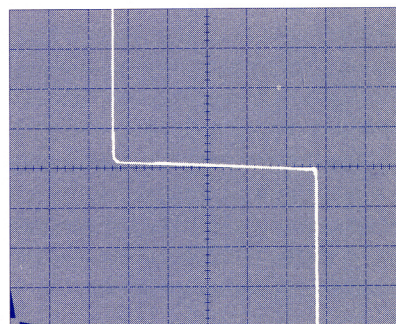

Figure 5-1. Gain curve with a 2-k Ω load, 1 mV/div vertical sensitivity.
- 5) Check gain against limits — Press UPPER and LOWER STORE buttons on 577 to obtain a clear, lasting trace. If necessary, press UPPER and LOWER ERASE first to clear screen. Check to see that vertical displacement is within specified value [1 div, or 1 mV] at specified points [+ and -2 divs from center], and that gain does not vary excessively over op amp's working output range. Refer to Figure 5-1. 3 2